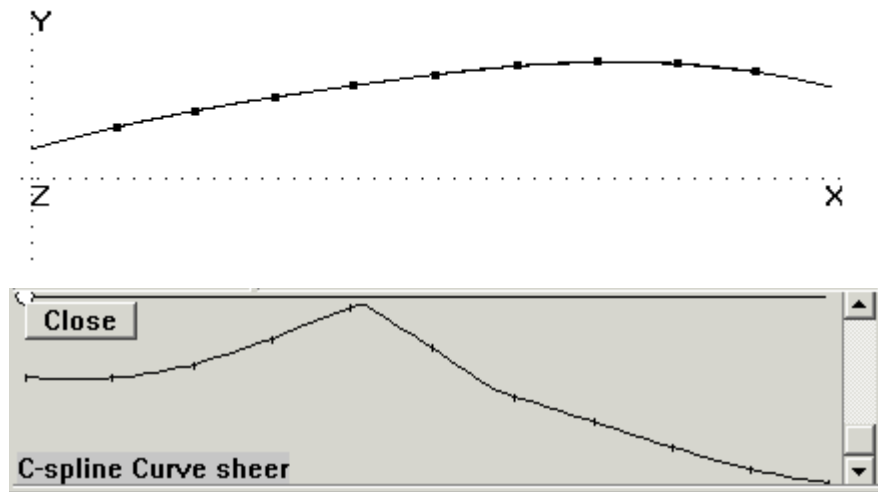
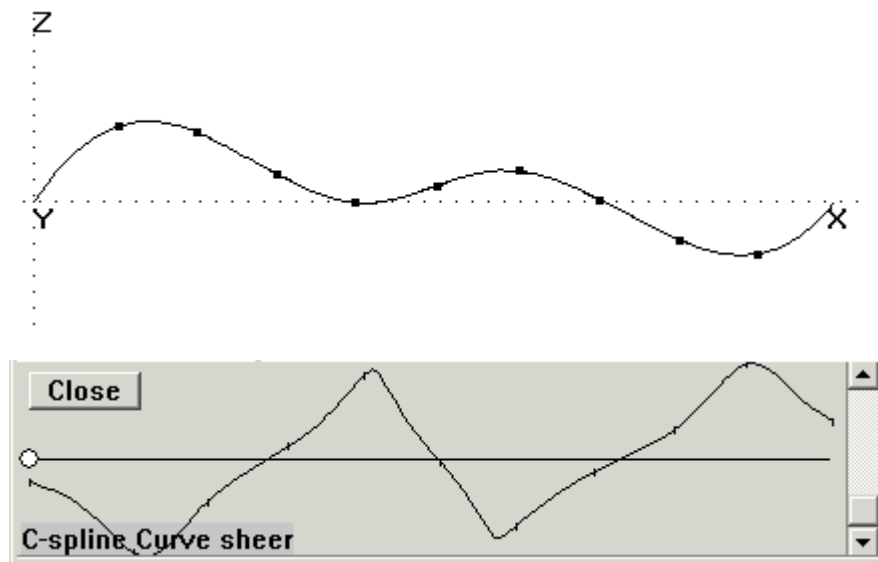
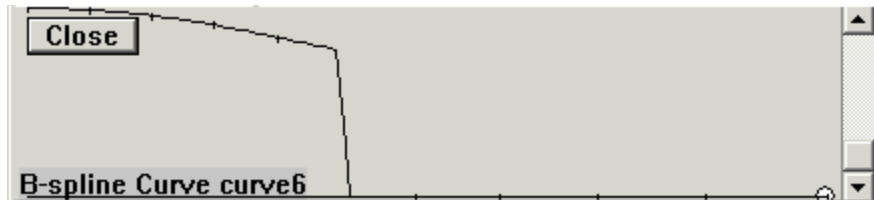

Fig. 1. Curve with tickmarks (top) and graph (bottom) in Front view.
Fig. 2. Curve with tickmarks (top) and graph (bottom) in Top view. There are three inflection points in this view.
Fig. 3. This graph shows zero curvature (a straight portion on the curve) from  $t = 0$  to about  $t = .5$ .
First, the curvature profile graph is a plot of the curvature of the selected curve vs. arc length in its current screen projection. For instance, Fig. 1 and Fig. 2 (see below) show a curve and its curvature profile in Front view and in Top view (the curve and curvature profile would vary at all rotational increments in between as well). Since the curvature profile is marked at  $t$ -increments of .1, turning on tickmarks for the curve can provide a good comparative reference. (You turn on tickmarks using the Properties Manager; in the 'Show tickmarks' box click 'True') The circle around one end of the graph axis shows which end of the graph corresponds to the  $t = 0$  end of the selected curve.
- negative curvature (below the graph axis) indicates the curve is curving toward the right as you move in the direction of increasing  $t$  (see Fig. 1 below)
A zero crossing of the horizontal axis in the curvature profile is an inflection point on the curve (see Fig. 2 below).
Putting yourself in “bug-mode” may be the easiest way to understand all of this. How to be a bug? Just imagine it — you are your favorite bug, walking on your screen in the direction of increasing  $t$ , along the selected curve. If as you walk you are curving to your right, that portion of the curve has negative curvature. And conversely, if as you walk you are curving to the left, that portion of the curve has positive curvature. If you are walking straight as an arrow, that portion of the curve has zero curvature (see Fig. 3 below).
Let's read the graph in Fig. 1. The question you might have about the curve in this view is whether or not there is an inflection between  $t = .3$  and  $t = .5$ . The graph proves there is not — the graph does not cross the axis; the curvature is all negative (below the axis). The graph shows a slight increase in (negative) curvature at the beginning of the curve, then a gradual decrease to the area of least curvature between  $t = .4$  and  $t = .5$ , then a gradual increase for most of the rest of the curve.
The graph in Fig. 2 is for the same curve as in Fig. 1, but in a different view. It shows three inflection points. The curvature gradually increases and decreases; there is no sharp discontinuity in the curve. By contrast, the graph in Fig. 3 (for a degree-2 B-spline Curve) shows a sharp discontinuity in curvature, at  $t = .5$ .
Continuing to read Fig. 3, note that  $t = 0$  for this graph is at the right-hand end of the axis. The stretch of this graph with zero curvature proves that the curve is straight from  $t = 0$  to almost  $t = .5$ , then there is the sharp increase in (positive) curvature, then the curvature is almost constant to the end.